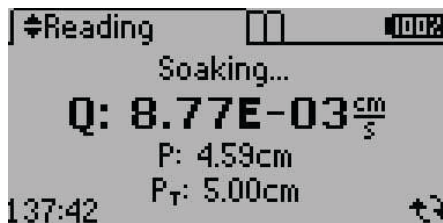

Figure 14 Status screen during test
- **Status Screen.** The Status screen shows the test status, such as Soaking in (Figure 14). When the test is completed, it changes to the Results screen.